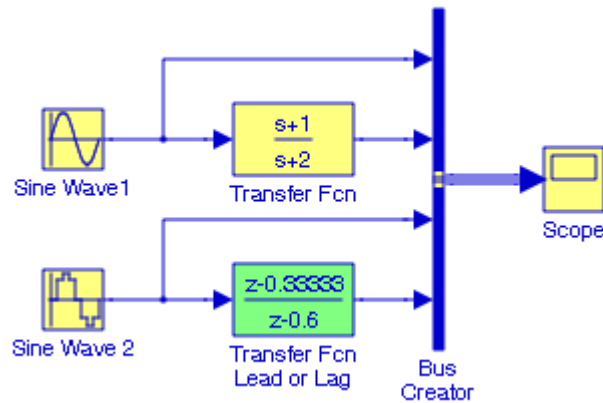
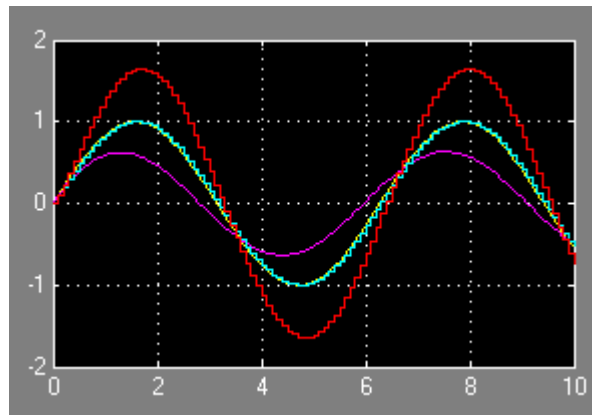

Figure 5.21. Model for Example 5.10
Figure 5.22. Input and output waveforms for the model in Figure 5.21
c. The model is shown in Figure 5.21. The input and output waveforms are shown in Figure 5.22.